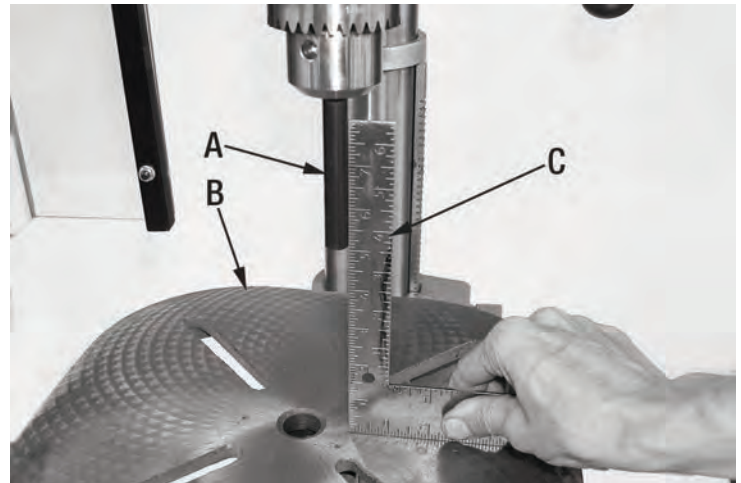
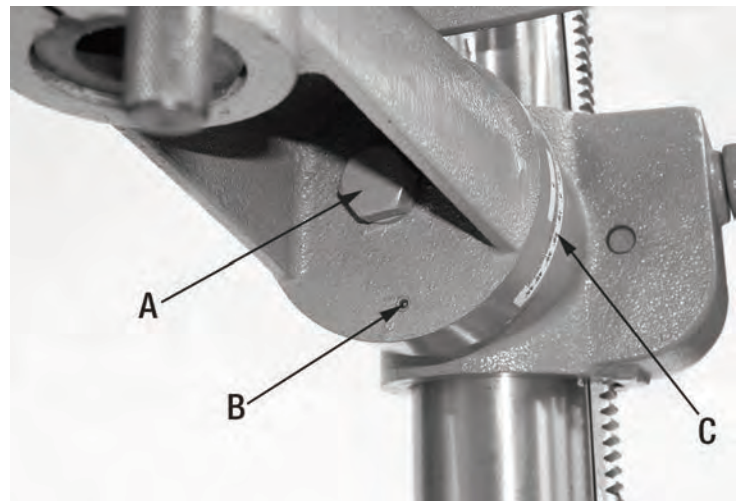

FIGURE 21
FIGURE 22
- 1) Insert a precision round steel rod (A) Fig.21 approximately 3" long into the chuck and tighten.
- 2) With the table (B) raised to working height and locked into position, place a combination square (C) flat on the table beside the rod.
- 3) If an adjustment is necessary, loosen the table bevel lock bolt (A) Fig.22 with an adjustable wrench and the set screw (B) with a hex. key. This adjustment is located under the table.
To use the table in a bevel position, loosen the bevel lock hex. bolt (A) Fig.22 with an adjustable wrench. Then loosen the set screw (B) with a hex. key. Tilt the table to the desired angle by reading the bevel scale (C) on the table support. Retighten the bevel lock bolt and set screw.